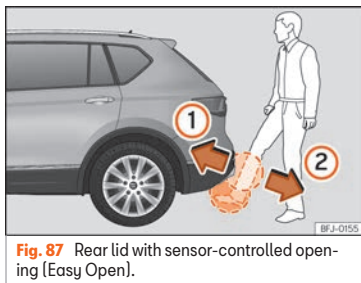

Fig. 87 Rear lid with sensor-controlled opening [Easy Open].
- With a brisk movement, bring your foot and lower leg as close as you can to the bumper. The lower part of the leg needs to be close to the upper sensor area and your foot must be close to the lower sensor area »» **Fig. 87 ①**.
- Quickly remove your foot and lower leg from the sensor areas »» **Fig. 87 ②**. The rear lid will be automatically opened.